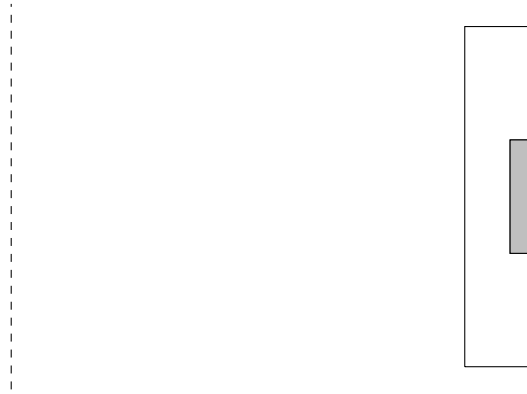

Figure 1: Revolved schematic of your friend's ring design
5. Somewhat humbled to learn about his not-so-super material, your determined friend decides to use some of the material he has in his basement (Aluminum, Nylon, and Steel) to make bi-material rings. A revolved schematic drawing for his ring design is shown in Figure 1.